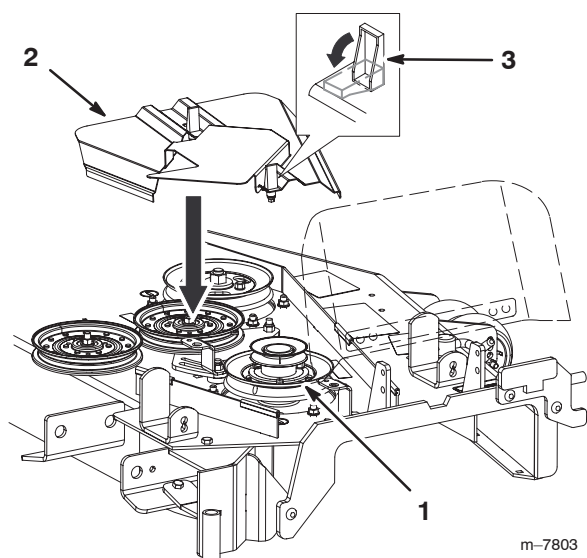

Figure 5
1. Install the new belt cover over the pulley assembly and secure the latches (Fig. 5).